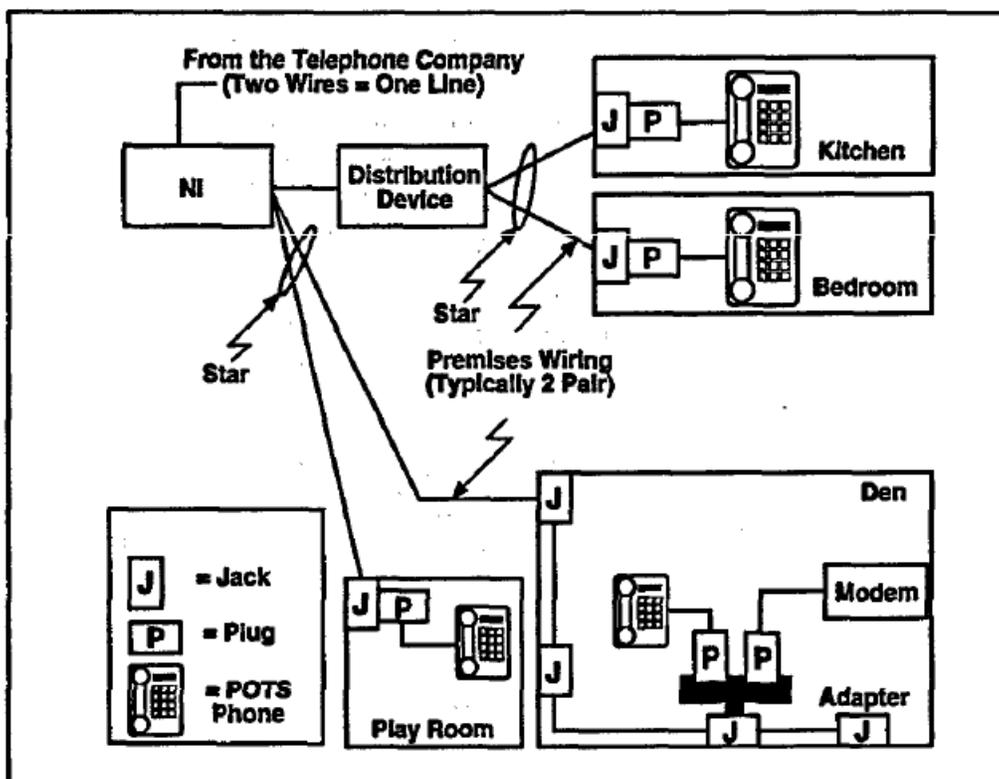
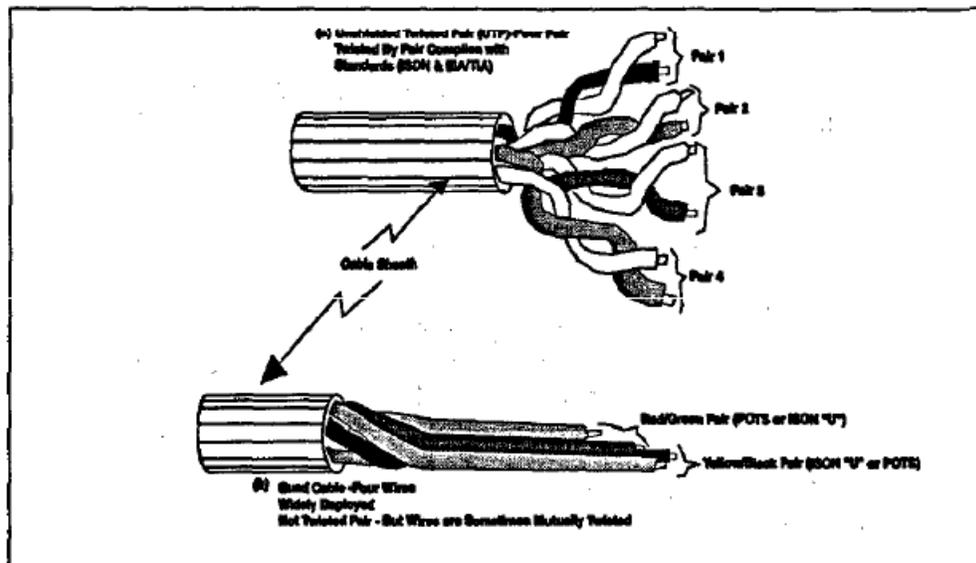

Figure 1.1
Figure 1.3
Figure 1.1 shows the typical components that are used to distribute POTS throughout the residence. This figure, one of many possible wiring arrangements, is intended to introduce useful terms and wiring components. A more detailed discussion of POTS wiring arrangements is provided in Section 1.3. The components and concepts discussed here are:
The single line service, such as that shown in Figure 1.1, is delivered to the house, from the Telephone Company's building (Central Office) on two wires. By law, the Telephone Company's responsibility ends at the location where these wires are delivered to the residence. This location where the homeowner's responsibility starts is called the demarcation point (demarc). In
Referring back to Figure 1.1, the wires coming out of the demarc are labeled "in-house telephone cables." These cables carry the wire pairs that are connected to the NI. Each cable can have one or more pairs (of wires). Your house is probably wired for telephone service with a type of cable commonly called Quad Cable. A "Quad Cable" is shown in Figure 1.3 (b), it has 2 pair of wires (4 wires) enclosed in an outer plastic jacket or sheath.
- In the early 1950's phones with lighted dials were introduced and the Telephone Companies started to install Quad cable. This wire, shown in Figure 1.3 (b), is still being installed by some Telephone Companies and independent installers.
- A Twisted Pair consists of two wires (a pair) twisted together. An unshielded twisted pair (UTP) cable contains two or more twisted pairs enclosed in a jacket or sheath. An unshielded twisted pair cable with 4 twisted pairs (8 wires) is shown in Figure 1.3 (a). The designation "unshielded" refers to the fact that the sheath does not include an electrical shield.
In Figure 1.1 three cables are shown leaving the NI in a configuration known as a **Star Configuration**. The configuration is called a star because a common connection point supports wiring to more than one location. In the following discussion it is assumed that the house is wired with Quad Cable which has two Pairs. Since this is a single line service, only one pair from each cable is connected to the common point at the NI. At each service outlet (jack), however, all four wires should be connected. The cable running to the Play Room goes directly to a single jack and this is called a **home-run**. Star wiring is also often referred to as “home-run wiring”.
The cable going to the Den is connected to four outlets in a configuration known as a **Daisy Chain**. In a Daisy Chain the cable is terminated at the first outlet (jack) where a second length of cable is also connected in order to continue the run to the next outlet. In this case, the outlet is serving a dual purpose of a phone jack and a distribution device (see 1.2.4). This wiring continues until the last outlet is wired in the Daisy Chain. In Figure 1.1 the Daisy Chain is shown as confined to a single room, but this is not always the case and your house may be wired as one large daisy chain.